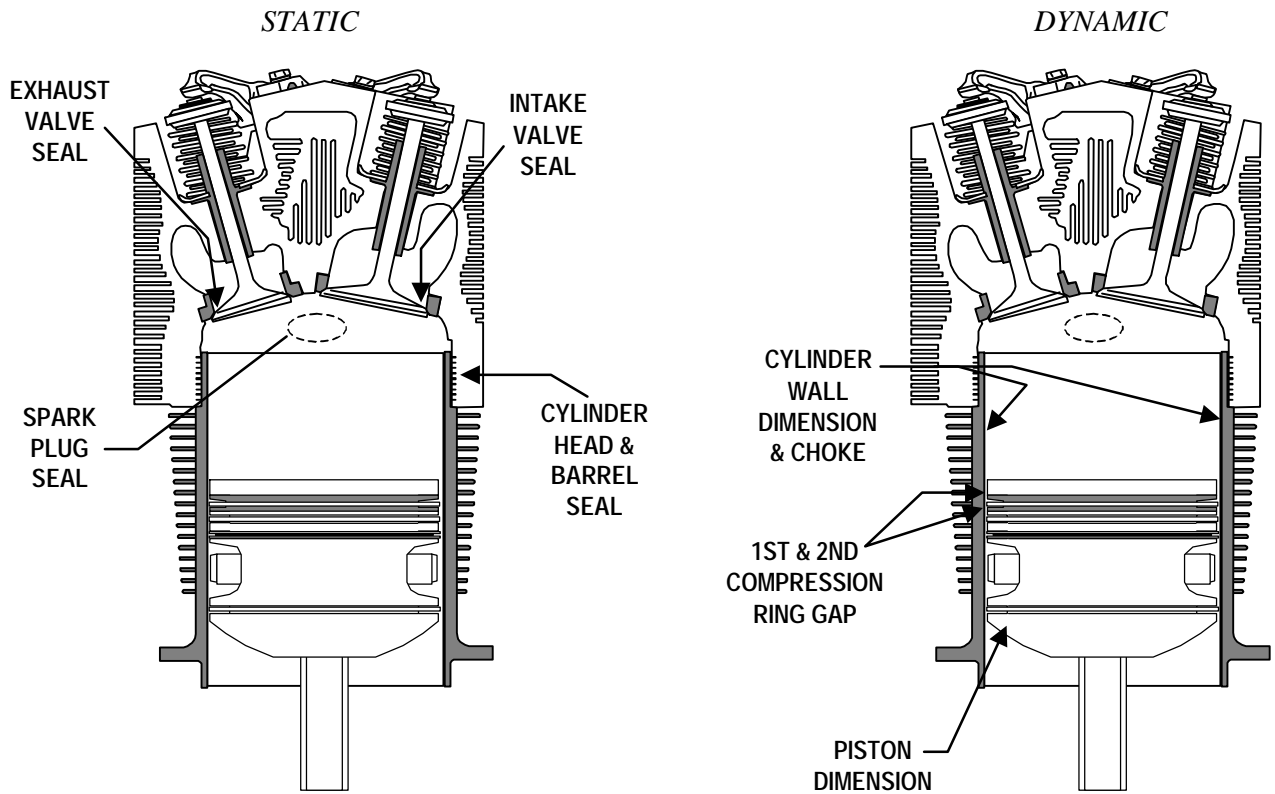

FIGURE 2.
The static seal consists of the valve to valve seat seals, spark plug to spark plug port seals and cylinder head to barrel seal (Ref. Figure 2). No leakage of the static seal is permissible.
The dynamic seal consists of the piston rings to the cylinder wall seal (Ref. Figure 2). This seal leakage can vary from engine to engine by the cylinder displacement, cylinder choke, ring end gap and piston design.
- (j) If the cylinder was removed for static leakage, replacement or repair, inspect piston ring gap and cylinder wall for tolerance (Ref. Dynamic Seal, Figure 2). Once the piston and the cylinder have been cleaned, inspected, and ring gap tolerances have been met, reassemble to the engine.